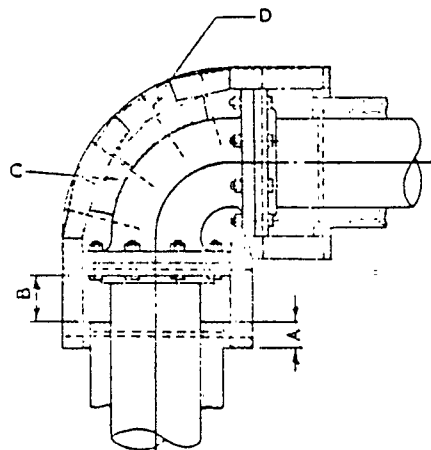

FIGURE 9
7.3 Flanged fittings and flanged valves shall be insulated with block or pipe insulation equal in thickness to the adjacent pipe insulation, in accordance with Figures 9 and 10. The fitting insulation shall overlap the adjacent pipe insulation 2 inches or equal the pipe insulation thickness, whichever is greater. See Figures 9 and 10.
Legend Figures 9 and 10